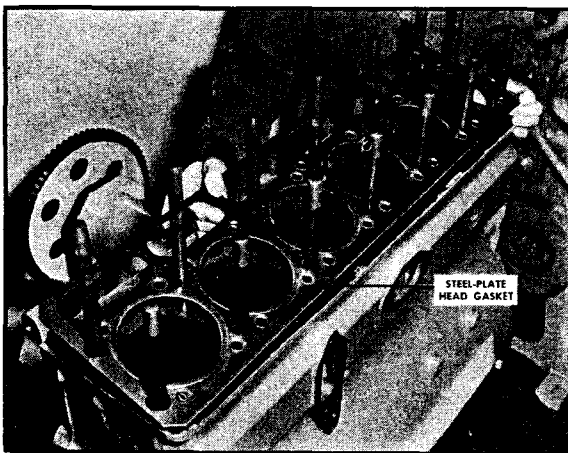

Fig. 12-43. Install head gasket
4. Install the head gasket. Fig. 12-43.